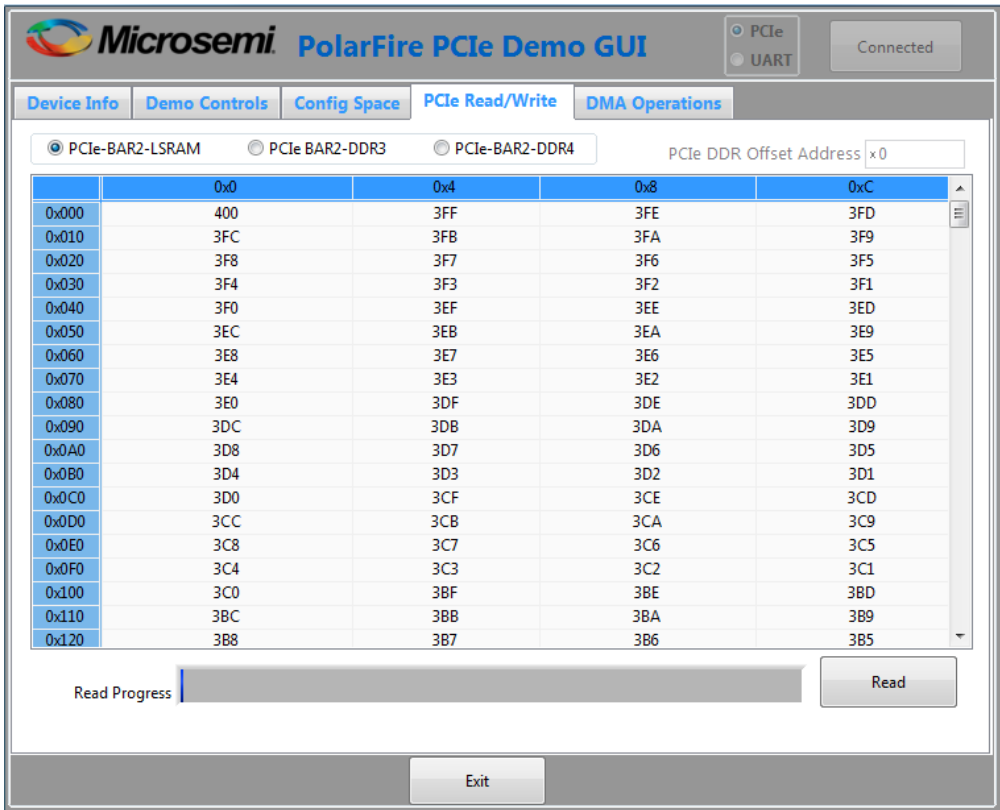
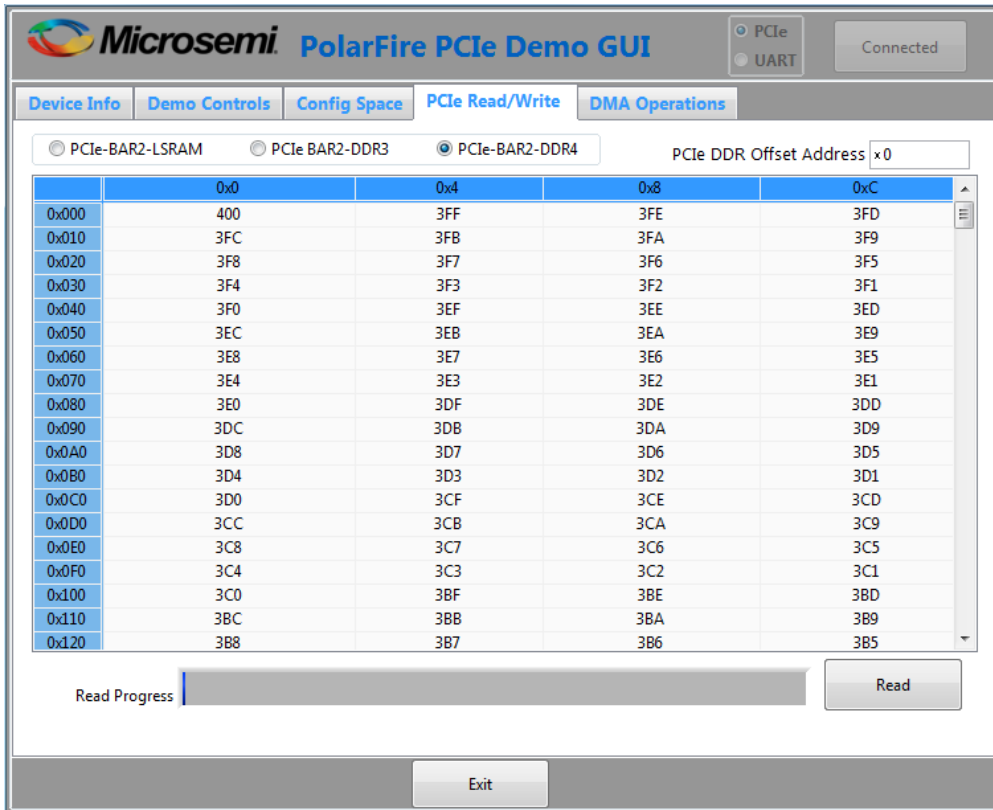

Figure 36: Demo application - PCIe Read/Write tab – LSRAM
Figure 38: Demo application - PCIe Read/Write tab - DDR3 32 Bit
8. Click **Read** to read the 4 KB memory mapped to BAR2 space for DDR and LSRAM as shown in Figure 36 to Figure 38.